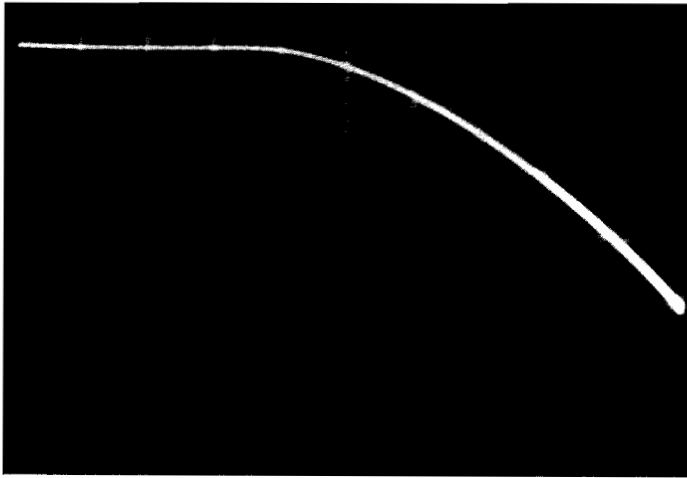

FIGURE 18–3
3. Adjust the frequency of the signal generator to 500 Hz and at a signal level sufficient to produce a display similar to that shown in Figure 18–3. If you do not obtain this curve, the oscilloscope leads may be interchanged or there may be wiring error.
4. Using Figure 18–4 as a guide, estimate from the oscilloscope’s display both I_{DSS} and $V_{GS(off)}$ for the MPF102 JFET you are using. Record these values in Table 18–1. If you also performed Experiment 17, now compare these values with those obtained in that experiment. If you used the same MPF102 JFET in both experiments, your results should closely agree.
1. The point at which the curve of Figure 18–3 intersects the vertical axis is
2. The point at which the curve of Figure 18–3 intersects the horizontal axis is
3. The diode in the test circuit of Figure 18–1 is used to
4. From the curve of Figure 18–3, one is able to determine